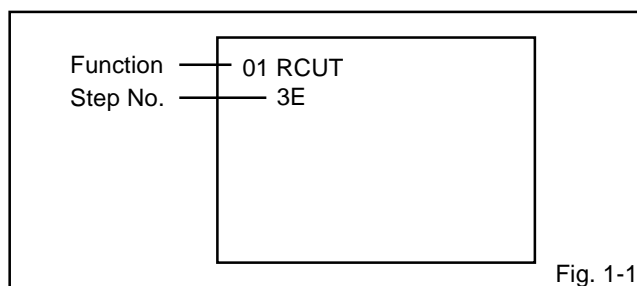

Fig. 1-1
Press the VOL. DOWN button on the set and the Channel button **(9)** on the remote control for more than 1 second to appear the adjustment mode on the screen as shown in **Fig. 1-1**.
4. Activate the adjustment mode display of **Fig. 1-1** and press the channel button **(29)** on the remote control to select "AGC".
5. Activate the adjustment mode display of **Fig. 1-1** and press the channel button **(72)** on the remote control to select "CUT OFF".
4. Activate the adjustment mode display of **Fig. 1-1** and press the channel button **(01)** on the remote control to select "RCUT".
3. Activate the adjustment mode display of **Fig. 1-1** and press the channel button **(19)** on the remote control to select "HPOSI".
3. Activate the adjustment mode display of **Fig. 1-1** and press the channel button **(26)** on the remote control to select "WIDS".
3. Activate the adjustment mode display of **Fig. 1-1** and press the channel button **(22)** on the remote control to select "VLIN".
3. Activate the adjustment mode display of **Fig. 1-1** and press the channel button **(20)** on the remote control to select "VPOSI".